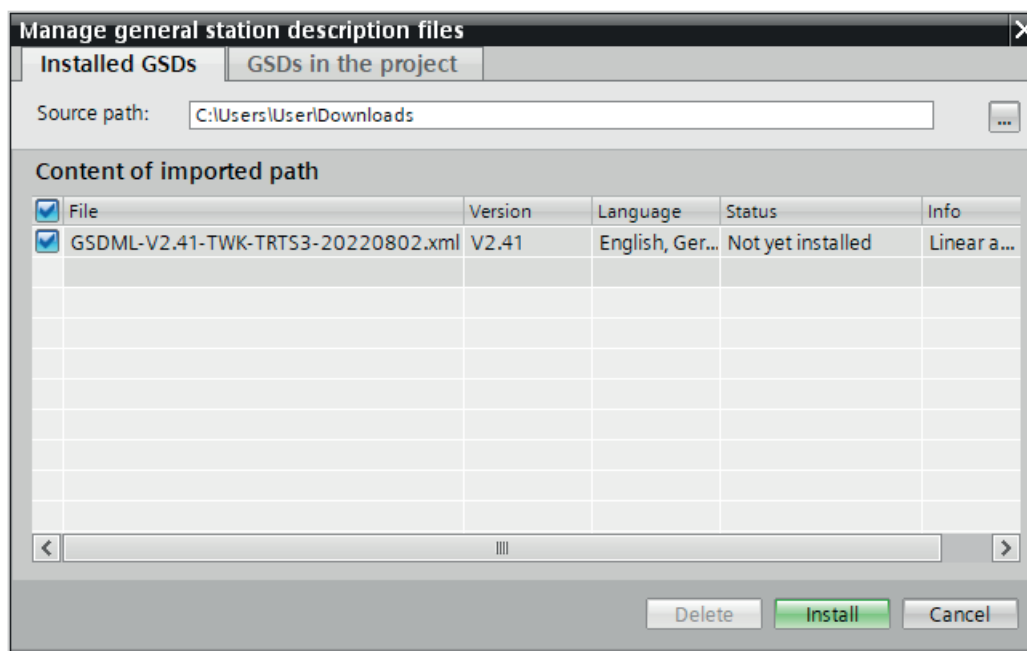

Fig.: 3
- Set the source path to your GSD file, check the GSD file and click on "Install" (see Figure 3).